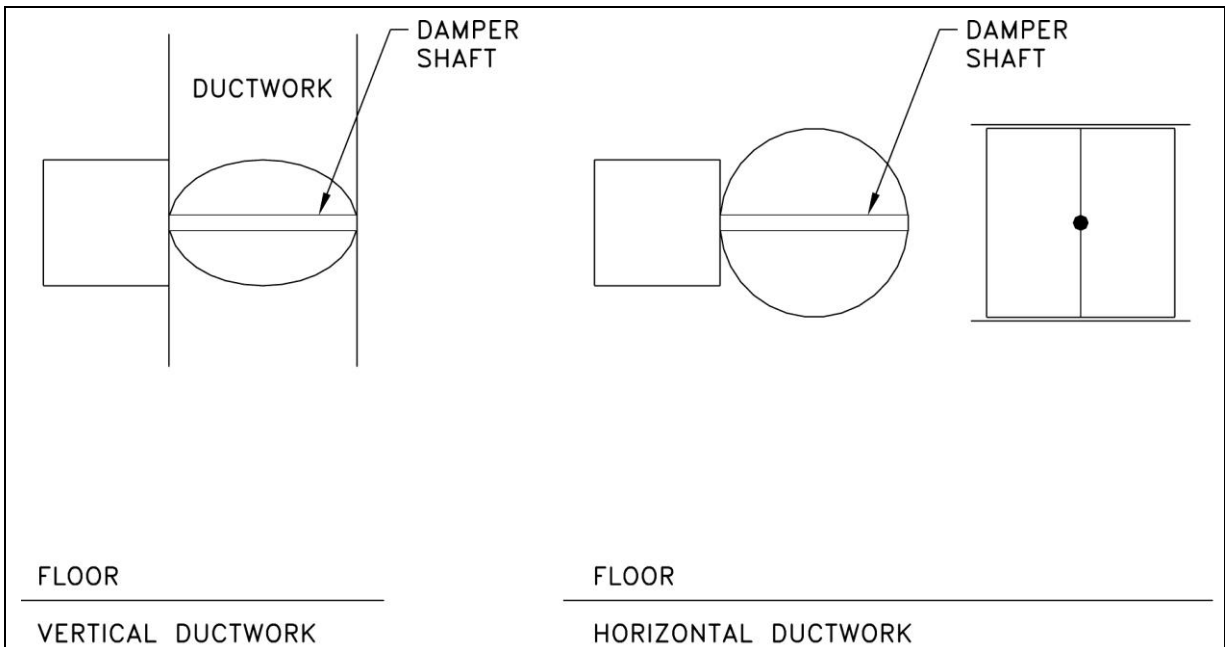

Figure 12: Proper Damper Mounting
2. The damper must be installed with the damper shaft parallel to the ground (Figure 12).